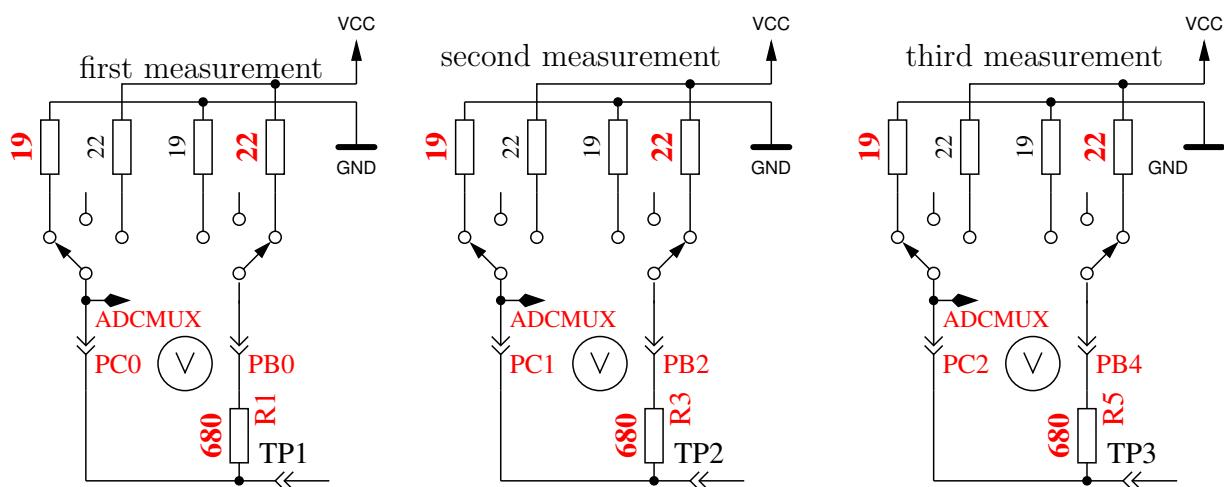

Figure 5.66. Measurement of internal resistance of Port C switched to GND
5. **This step tests the capability of GND (-) connected $470k\Omega$ resistors (H) to pull the test pins to GND.** Row 1 shows the text “RH-”. Row 2 should display zero for all three pins.
6. **This step tests the capability of VCC (+) connected $470k\Omega$ resistors (H) to pull the test pins to VCC (+).** Row 1 shows the text “RH+”. The results are shown als difference to VCC and should be near zero. Great differences from the best value for test 5 and 6 are errors such as isolation problem, flux material or damaged port.
8. **Measuring of internal resistance of pin output switched to the GND signal.** This test and the following tests will only be done, if the option AUTO_CAL is selected. The internal resistance of the port C outputs switched to GND (-) are measured with the current of to VCC (+) switched 680Ω resistors, see Figure 5.66. Only the three pins of the ADC port are measured, the resistor port B (PB0,PB2 and PB4) can not be measured without hardware modification. It is assumed that the port resistance of the different ports are nearly identical. The resistor value will be shown in the next test.